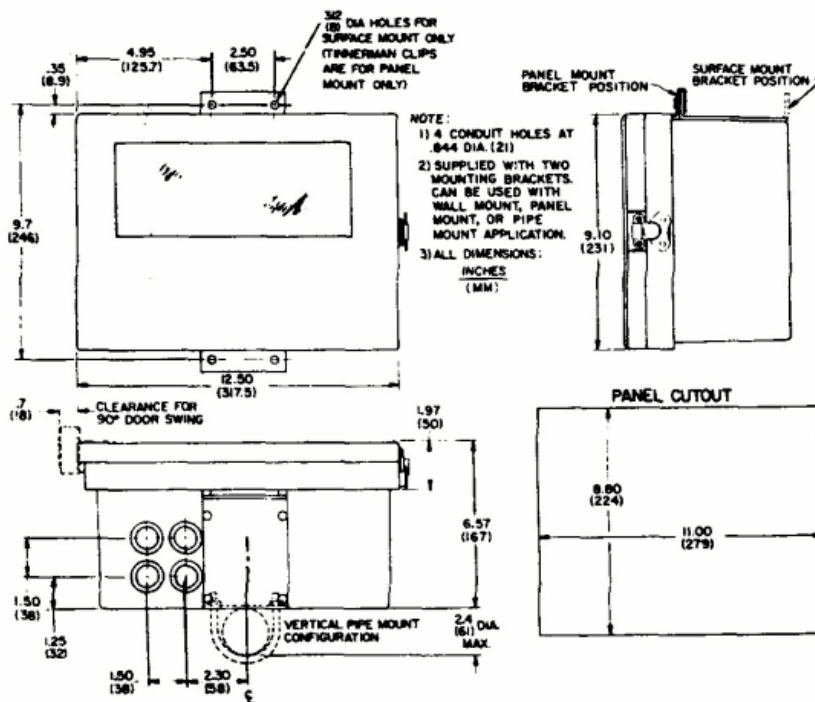
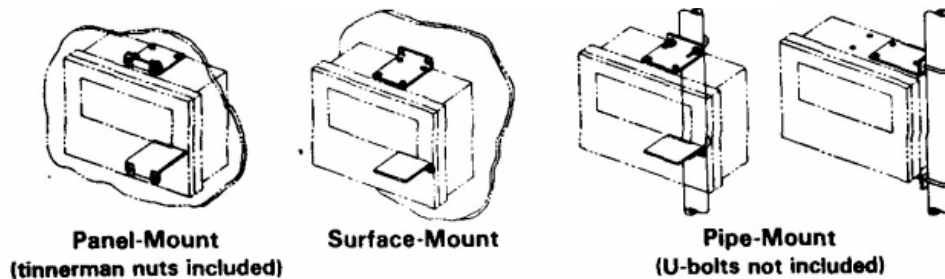

FIGURE 13-1 Enclosure Outline
FIGURE 13-2 Mounting Configurations
- 13.2 Refer to Figure 13-1 for enclosure and mounting dimension details. Figure 13-2 illustrates various mounting configurations. Use the two stainless steel brackets provided to panel, surface or pipe-mount the instrument. The bracket attachment configuration determines the mounting method.